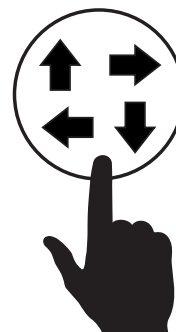

Figure 164. Mode Change Button
- On the touch display, press the **Mode Change button** (Figure 164).